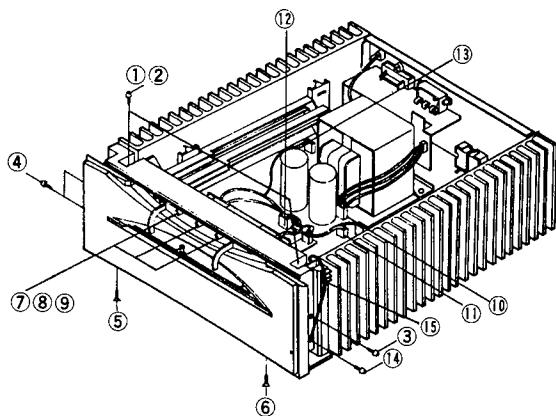

Fig. 6
1. Remove the rotary knobs ⑦ to ⑨ in Fig. 6.
2. Remove connectors ⑩ to ⑯ in Fig. 6.
3. Remove screw ⑯ and then unite the ground wire ⑯ in Fig. 6.
4. Remove screws ① to ⑥ in Fig. 6, and then remove the front panel assembly by pulling it toward you gently.